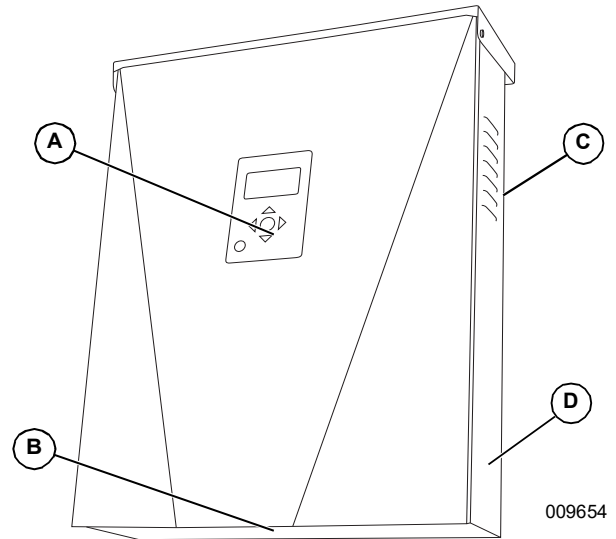

Figure 2-2. Component Locations
Refer to **Figure 2-2** to locate unit serial number (D). Record the information from this tag in **Table 1: PWRcell Inverter Important Information** on the inside front cover of this manual.